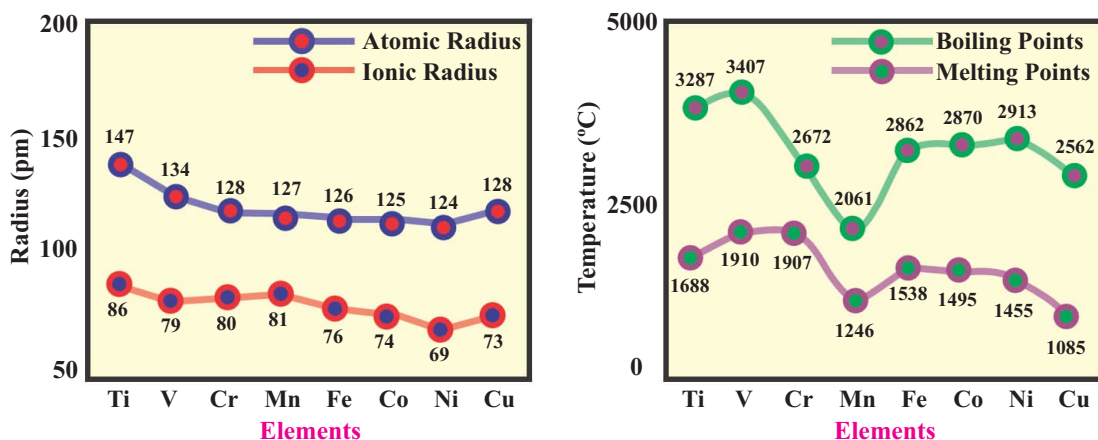

Figure 18.1 Atomic radii, ionic radii, melting points and boiling points of 3d transition elements
- They have high melting and boiling points. The melting and boiling points of these elements show a variable trend from left to right as shown in **Figure 18.1**.